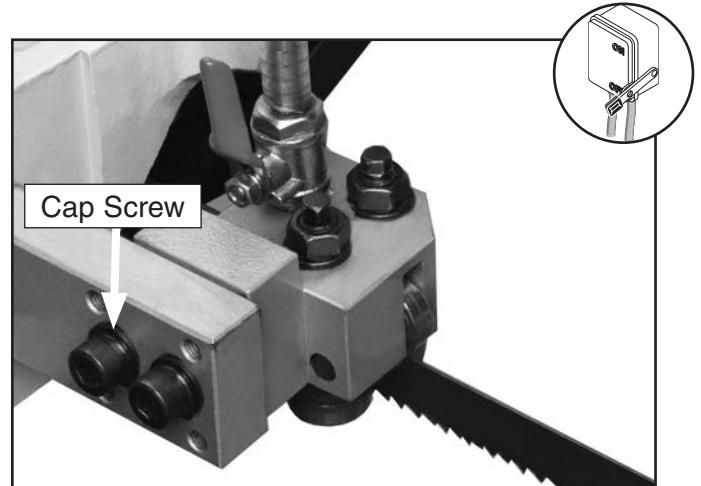

Figure 56. G0613 blade guide adjustment.
6. Loosen the two cap screws, then alternately adjust the four 4mm set screws to tilt the blade guide assembly and the blade square the vise. See **Figure 56** or **57** for your model of bandsaw.